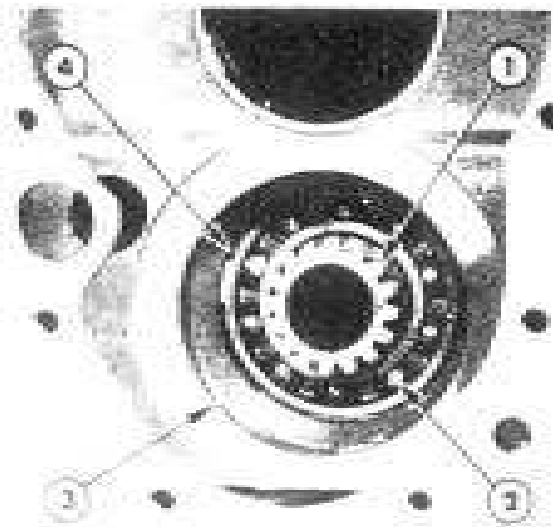

Figure 25
10. Remove the main countershaft rear bearing retaining snap ring from the transmission housing, Figure 25. Using a step plate of suitable diameter drive the countershaft rearwards until both front and rear bearings are out of their locations and the main countershaft assembly is loose in the bottom of the transmission.